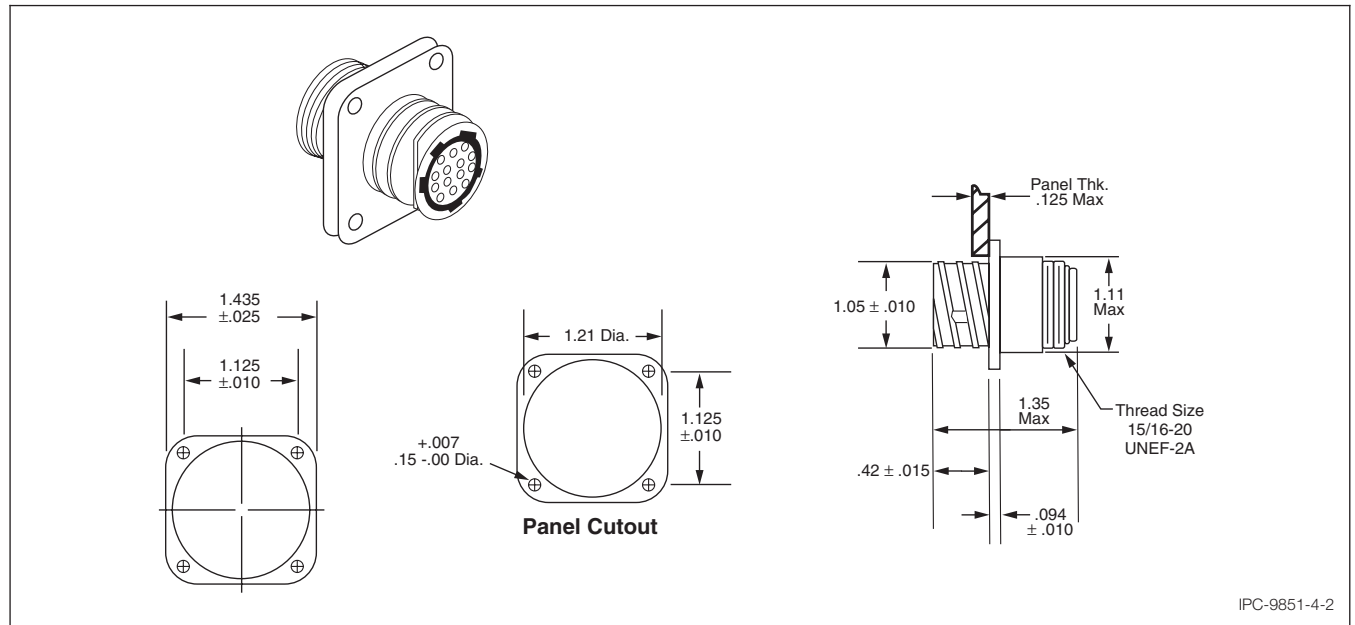

Figure 4-2 Square Flange Receptable, Accepts Multimate Sockets
4.2.1 Connectors All interface connectors on a machine **shall** be female. Figures 4-2 and 4-3 provide interface connector information.